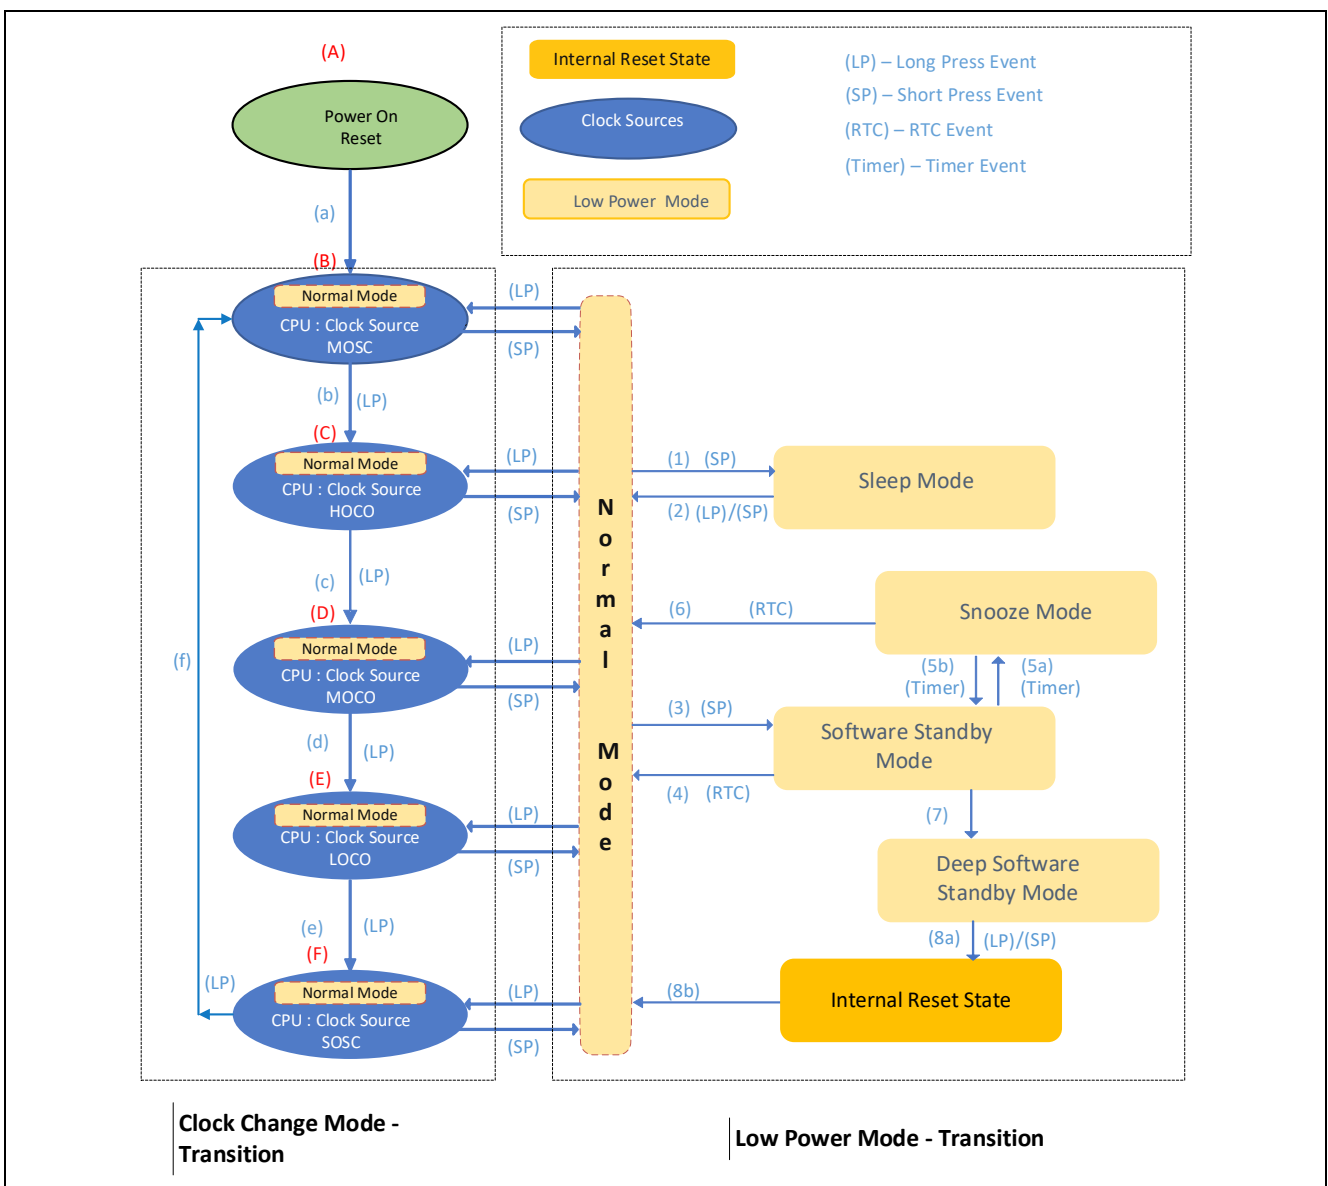

Figure 19. Clock Changing and LPM Transition
The following Figure 19 This shows the different clock sources and the associated LPM used in the application and different transition states. The application is implemented using an event-driven mechanism. In this event-driven system, events can be user-driven or system-generated and are used as input to the finite state machine. Two separate state transition tables are used here in the application.
In Figure 19 The blue oval-shaped blocks (B) through (F) represent the different clock states used in the application, and the labeled arrows (b) through (f) indicate the different transition paths it takes when changing the clock.
Note: The dotted block represents the Clock Change Mode transition on the left and the LPM Transition on the right as shown in Figure 19.